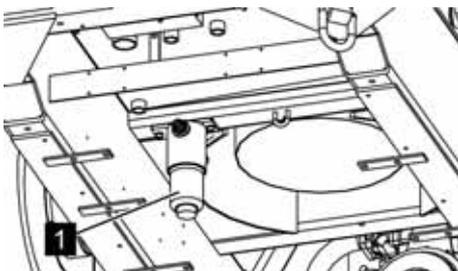

Fig. 147: Hydraulic filters
8. ▶ Screw the filter bowl (Fig. 147/1) back in.